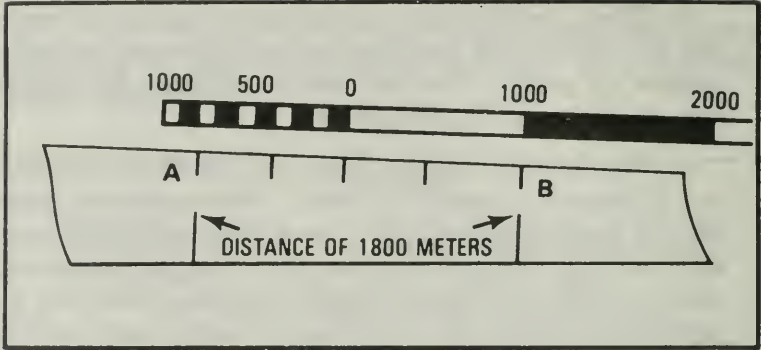

Figure 48. Map distance-1800 meters.
c. Suppose you want to find the distance between A and B around a curve in a road. Take a strip of paper, make a small tick mark on it, and line up the tick mark with point A. Align the paper with the road edge until you come to the curve, make another mark on the paper and on the map, and then pivot the paper so that it continues to follow the road edge. Keep repeating this until you get to B. Always follow the road edge with your paper. Make a mark on your paper where it hits B, and then go to the bar scales to get the distance (Figure 48).